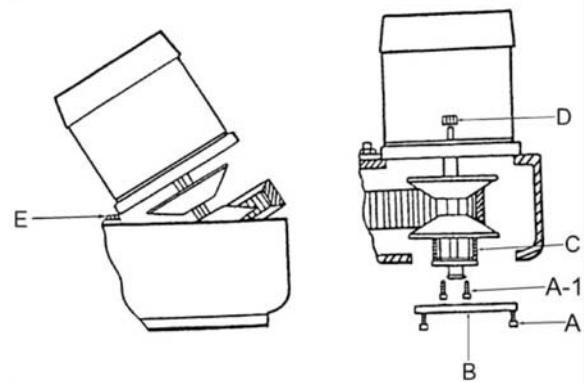

Figure 14
- Remove three screws (A, Fig. 14) and plate (B, Fig. 14).
- Use two screws (A-1, Fig. 14) to compress the spring (C, Fig. 14).
- Remove two locking nuts (D, Fig. 14).
- Lift and tilt the motor so that it rests on stud (E, Fig. 14).